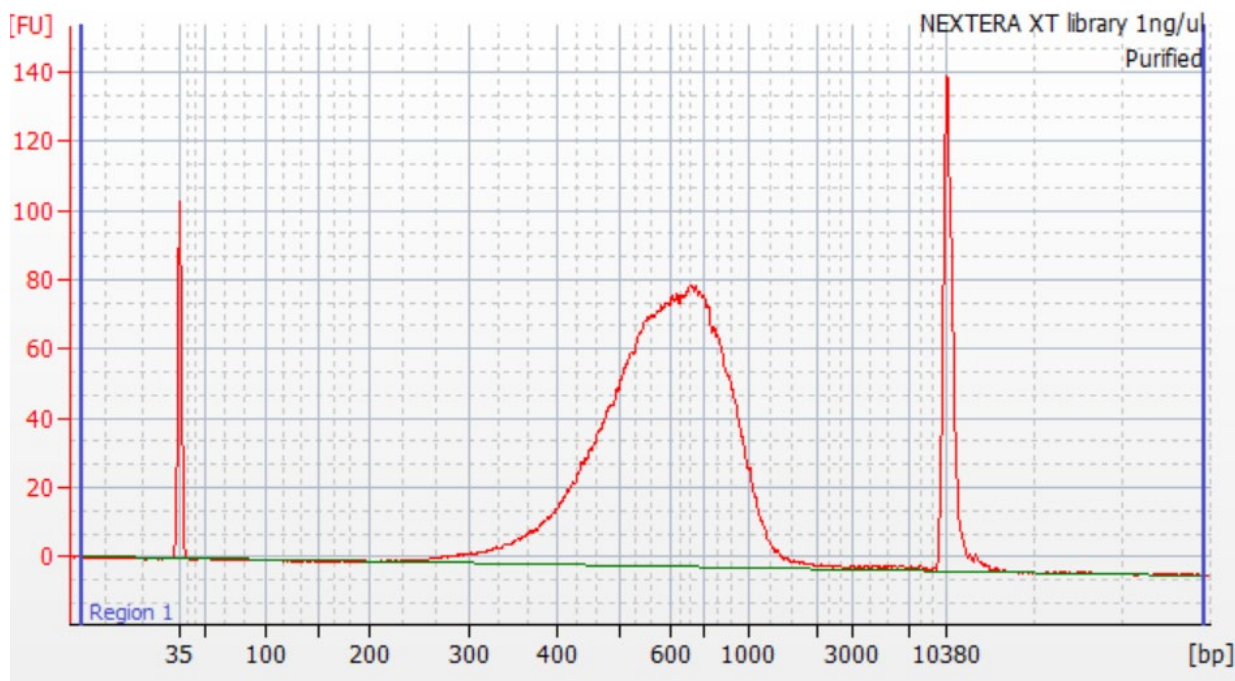

Figure 48. Typical Bioanalyzer trace for purified Nextera XT NGS library that has been normalized to 1 ng/µl.
29. Use the Bioanalyzer results to determine library quality (see Figure 48, below, for an example of a typical Bioanalyzer profile for an NGS library that has been successfully purified and size selected).